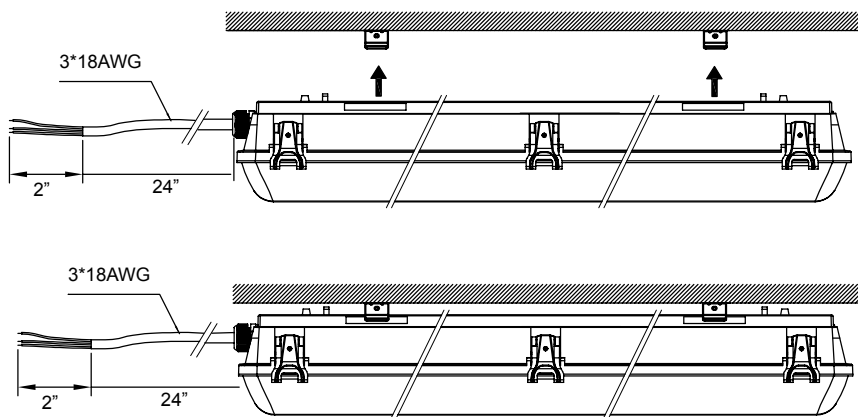

Figure 3
- Push the Fixture into the Bracket Slot. See Figure 3.